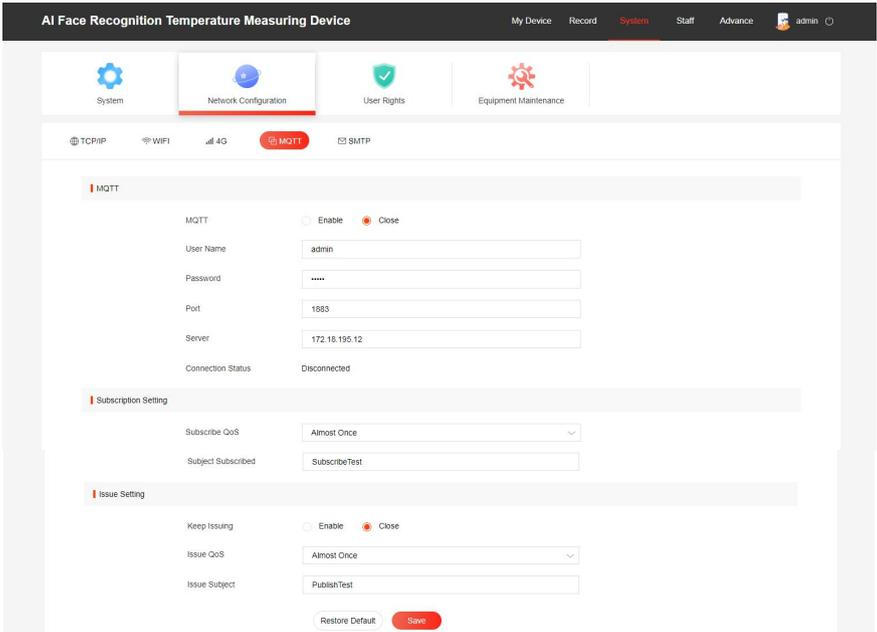

Figure 7-15
Step 1: After logging in to the web page, click "System → Network Configuration → MQTT Configuration" to enter the MQTT protocol configuration interface, as shown in Figure 7-15 below.